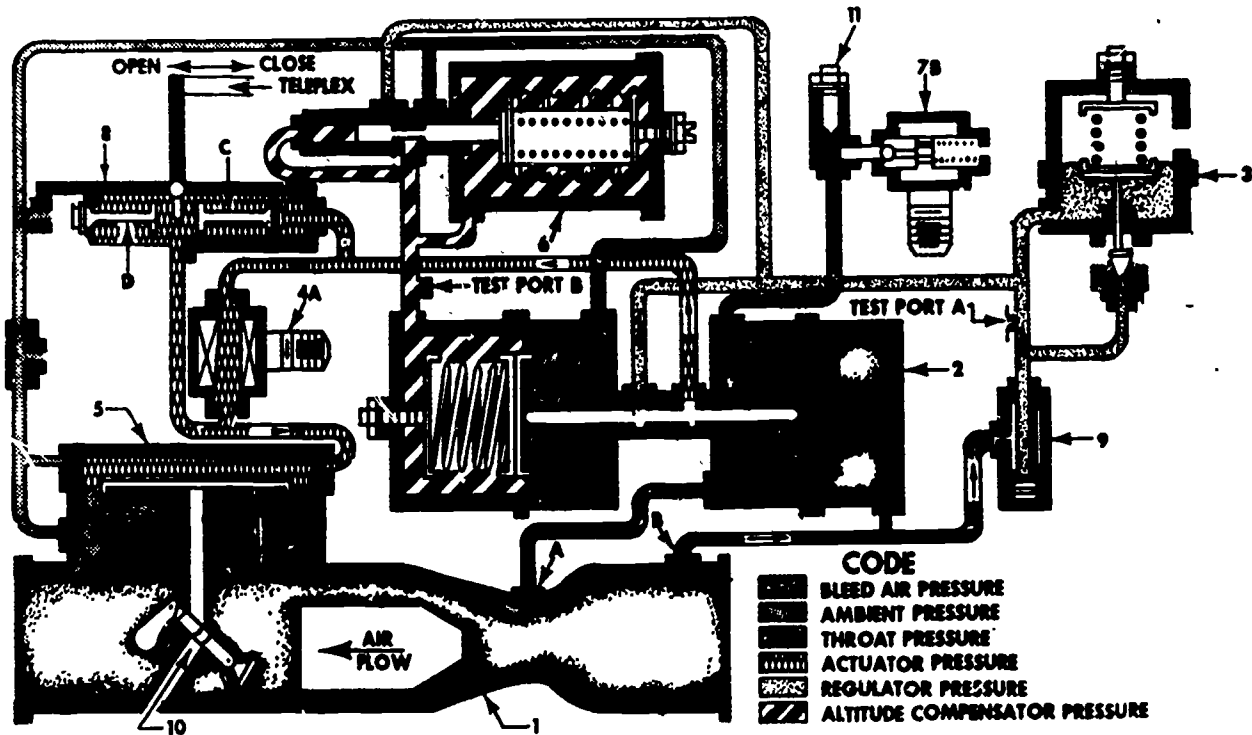
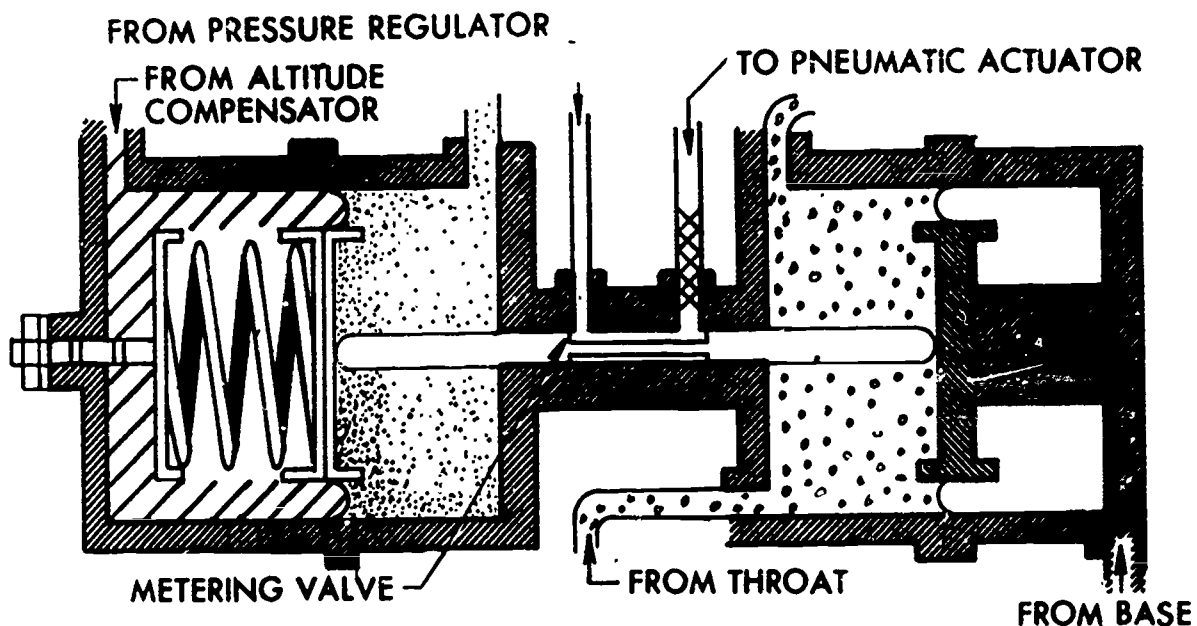

Figure 1. Airflow Control and Shutoff Valve.
Figure 3. Servo Controller.
18. Refer to figure 1 in this text and figure 4-1 in the TO and label the components represented by a letter.
This text was prepared to help you to learn to maintain the Airflow Control and Shutoff Valve. You will learn to identify and explain the function of each of its parts, and how to make the necessary checks and adjustments. A numbered schematic is included in figure 1 to help you see the relationship of the components.
After becoming familiar with these parts, you will see how they operate, step-by-step. Locate each part on figure 1 as we discuss it.
The servo controller, shown in figure 1 (2) and figure 3, is made up of two diaphragm control sections, the main or primary servo section and the secondary servo section. Each servo section is made up of an air chamber divided by a diaphragm. A metering valve is placed between these diaphragms. A spring in the left side of the secondary servo section moves the metering valve to the right (open) when air pressure in both sides of the main servo section is the same. This happens when there is no airflow through the venturi. The metering valve moves to the left (closed) when pressure in the right side of the main servo section increases. This happens when there is an increase in air pressure at the base of the venturi. The metering valve is set up to move toward the closed position to prevent a surge of air from going into the air conditioning system. Such a surge of air could damage the air conditioning ducts. The air that leaves the servo controller goes to the pneumatic actuator. The air that is used to operate, both the servo controller and the pneumatic actuator come from the venturi.
Use figures 1 and 3 as guides to pick the statements that describe the purpose or characteristics of the servo controller. Answer the statements as true (T) or false (F).
The pressure regulator, figure 1 (3), lowers the pressure of the air that is tapped off from the base of the venturi. The pressure regulator itself is a spring-loaded, diaphragm-actuated relief valve that reduces air pressure down to 12 to 35 psig. The air pressure varies depending on the supply pressure that is tapped off from the base. (The abbreviation "psig" stands for the pressure in pounds per square inch that can be measured on a gage.)